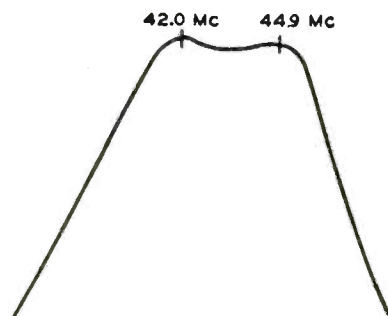

Fig. 4—Response curve for T1 and T2.
3. Remove the alligator clip from the plate of V3. Connect the sweep generator through the 1000- $\mu$ f mica capacitor to grid No. 1 of V3. Loosely couple the output of the marker calibrator to the sweep-generator lead. Adjust the primary and secondary inductances of T1 to obtain the response curve shown in Fig. 4.